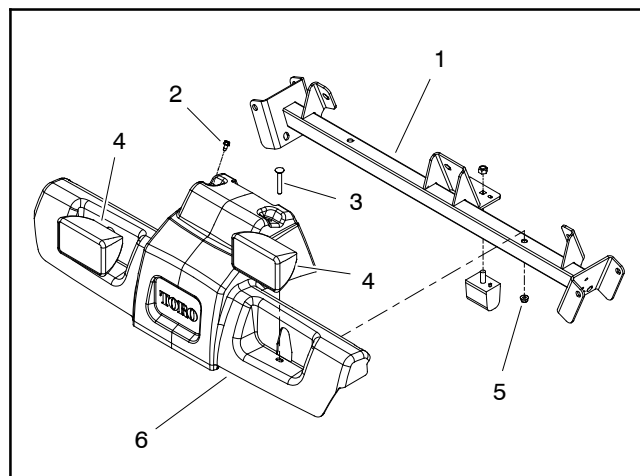
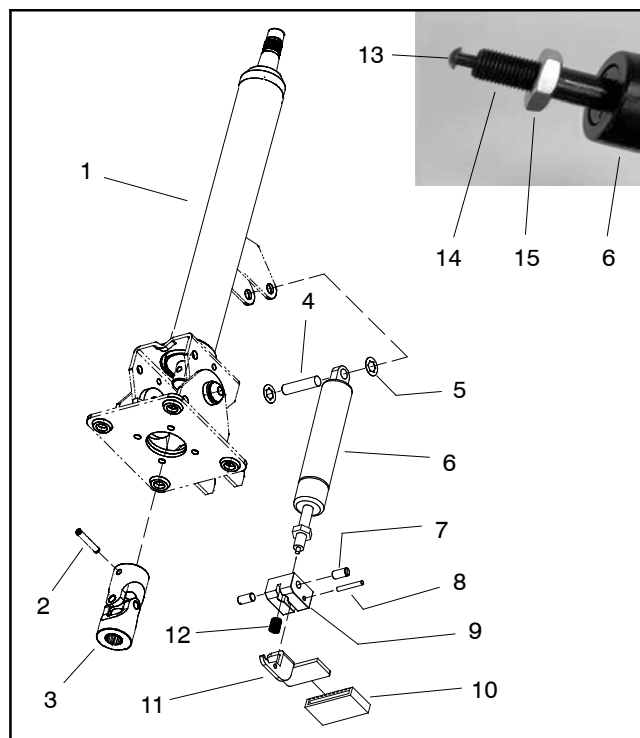

Figure 3
Figure 4
2. Remove platform shroud from machine to allow access to steering column fasteners (Fig. 3).
6. Remove four (4) flange head screws that secure column brace (item 12) to frame platform. Remove brace from machine to allow access to steering column fasteners.
9. Loosen and remove four (4) socket head screws (item 5) that secure steering control valve to steering column.
10. Loosen and remove four (4) socket head screws (item 9) and flange nuts (item 10) that secure steering column to machine.
12. Disassemble steering column assembly as needed using Figure 4 as a guide.
1. Assemble steering column using Figure 4 as a guide. After assembly, make sure that release pin on end of cylinder shaft is positioned against the pedal. Jam nut on cylinder shaft can be used to adjust location of release pin.
3. Carefully slide steering column onto steering control valve. Secure steering column in place with four (4) socket head screws (item 9) and flange nuts (item 10).
4. Secure steering control valve to steering column with four (4) socket head screws (item 5). Torque screws from **7 to 10 ft-lb (9.5 to 13.5 N-m)**.
6. Position column brace (item 12) in place and secure with four (4) flange head screws.
11. Install and secure platform shroud to machine (Fig. 3).